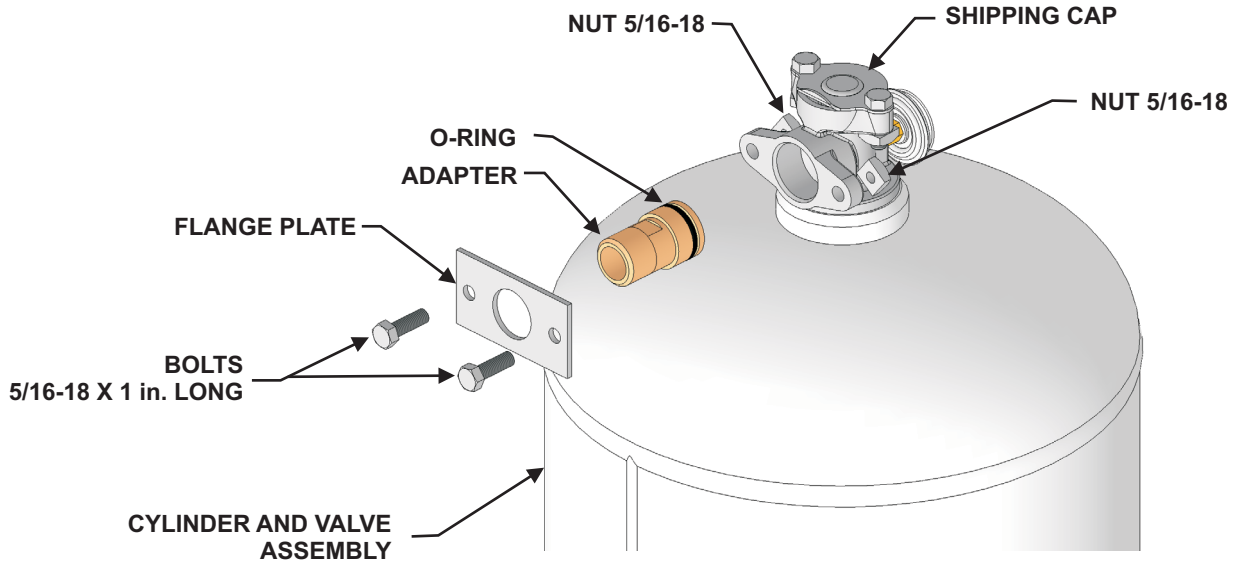

Figure 5-21. Removing Discharge Adapter Kit
7. Disconnect Discharge Adapter Kit (agent piping) from all cylinders (see Figure 5-21).